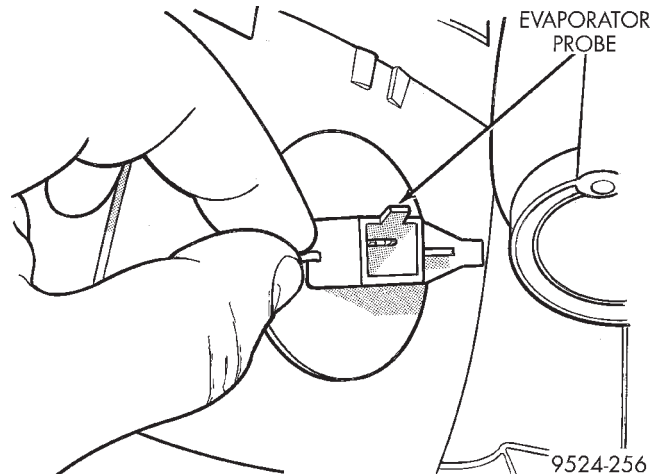

Fig. 42 Evaporator Probe
- (4) Using a flat blade pry tool, pull back on the locking tab. Twist the access plate clockwise one-quarter turn and remove plate (Fig. 42).